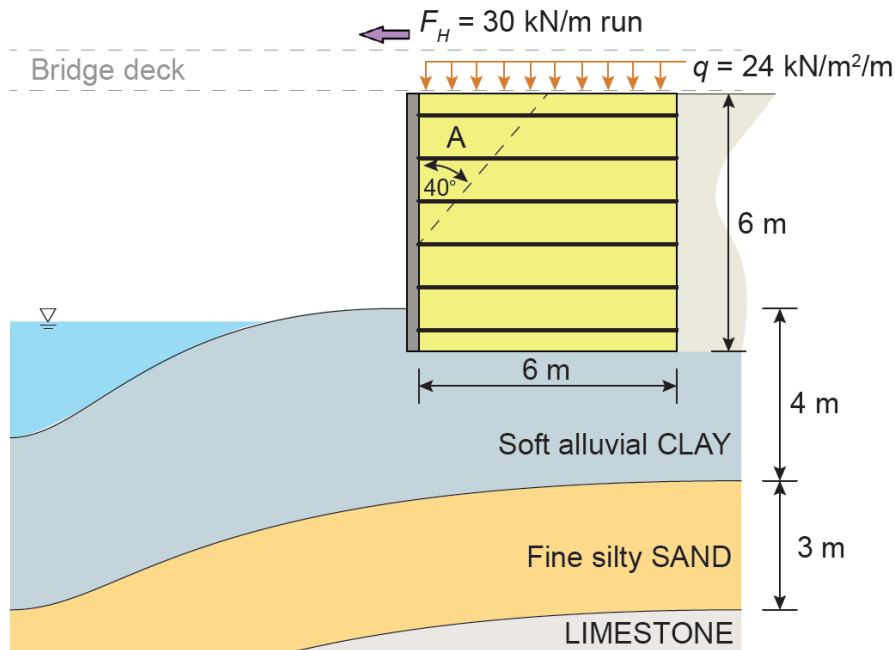

Figure Q2 Reinforced soil wall and site cross-section
2. As part of the construction of a new motorway, a road must cross a 19 m wide river. Two reinforced soil bridge abutments have been proposed on either side of the river with a single span bridge deck between them. The ground profile at the site comprises 4 m of soft alluvial CLAY which is underlain by 3 m of fine silty SAND, which is in turn underlain by limestone bedrock, as shown in **Figure Q2**.
- b) The proposed reinforced soil walls (**Figure Q2**) comprise geogrid strips. The top strips are placed at 0.5 m below the top of the wall, and the bottom strips are placed 0.5 m above the base of the wall. The strips are 0.125 m wide, 6 m long, and the horizontal and vertical spacings are 1.0 m. The 120-year ultimate tensile force is 60 kN. The granular fill has a bulk unit weight of 19 kN/m^3 , an effective cohesion of 0 kN/m^2 , and an effective friction angle of 33° . The geogrid/fill friction angle is 23° . The surcharge is $24 \text{ kN/m}^2/\text{m}$ run, while the horizontal force is 30 kN/m run.
- (i) Determine the factor of safety for the failure plane and associated wedge **A** shown in **Figure Q2**.